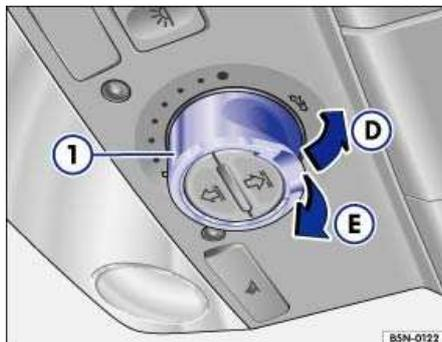

Fig. 30 Section of headliner: Tilting the Panorama sunroof.
- Press the switch ⇒ Fig. 30 (1) at the rear **briefly** (arrow D) to fully tilt the roof. To manually set an intermediate position, press the switch (1) **longer** until you reach the desired position.